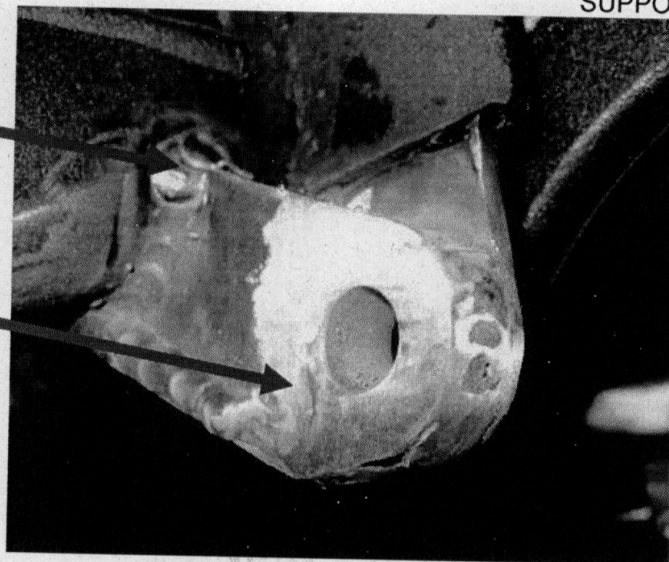

Fig 8
9.18 Dress back the excess weld, clean and coat with anti-rust paint, see fig 8.